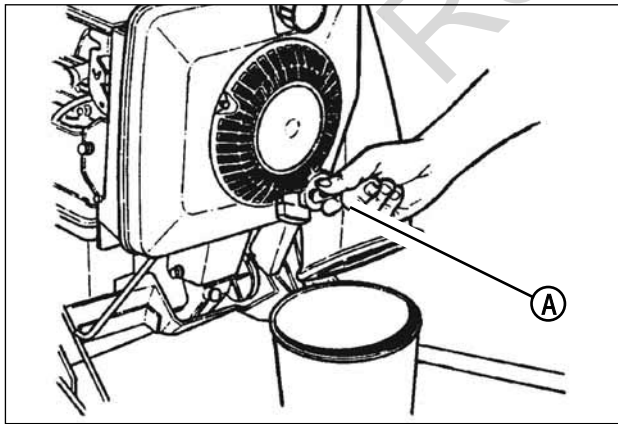

Figure 15: Draining the engine oil
2. For the simplest/cleanest oil change, simply turn the mower on its side to drain the oil, as shown. Drain the oil through the dipstick tube (A, Figure 15) into a container. Allow sufficient time for all the oil to drain.